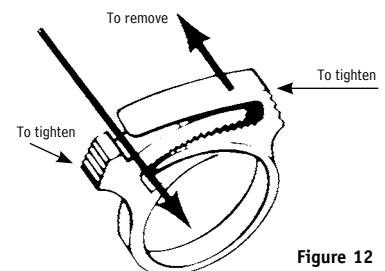

Figure 12
1. Remove nylon clamp from plastic anchor plate on hood (see Figure 12).
- Remove nylon clamp from the breathing tube (see Figure 12).